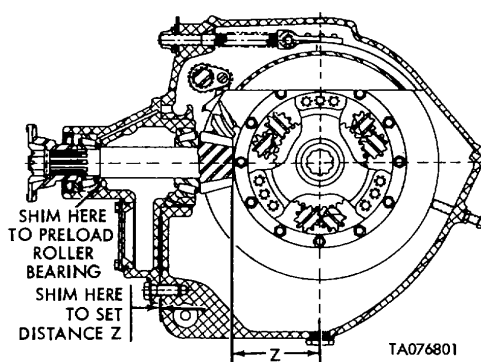

Figure 4-24. Shims Installation to Set Gear Shaft to Dimension Z
- (z) Install shims (23, 24, and 25) and packing (21) on housing (8). Shim to set pinion gear (18) to dimension Z. Dimension Z is the distance between center of ring gear (9, fig. 4-14) and the face of the matching pinion gear (18, fig. 4-11). Refer to figure 4-24. Secure housing (8) to differential housing using seven capscrews (26) and seven tab washers (27). Tighten screws to 45 - 50 ft-lb torque. After final shim adjustment, secure capscrews by bending up tab washers.
Install shims (7) on pinion gearshaft as indicated in figure 4-24 to preload gear shaft roller bearings (6 and 22) so that a torque of 2 to 7 in-lbs is required to rotate pinion after break away.